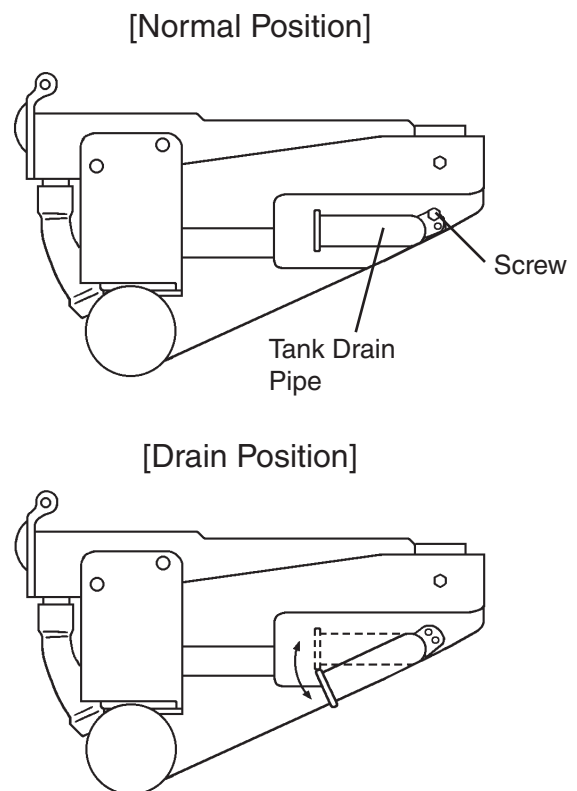

Fig. 5
- 5) Remove the screw, then move the water tank drain pipe to the drain position. See Fig. 5. Use the screw to secure the water tank drain pipe in the drain position.
- 20) Remove the screw, then move the water tank drain pipe to the normal position. See Fig. 5. Use the screw to secure the water tank drain pipe in the normal position.
- 2) Remove the screw, and move the tank drain pipe to the drain position. See Fig. 5.
- 8) Move the tank drain pipe to the normal position, and secure it with the screw. See Fig. 5.